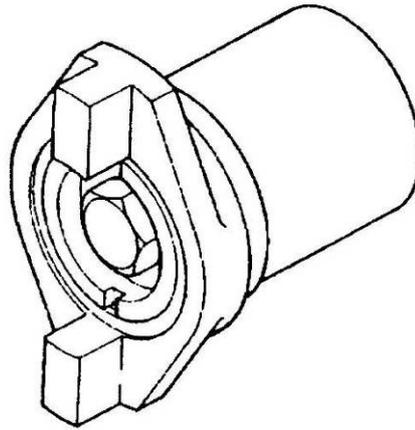

Figure 84 Camshaft Coupling Tool
- d. Install the camshaft coupling tool 157842-4420 (Figure 84) on the camshaft and remove the control lever return spring.